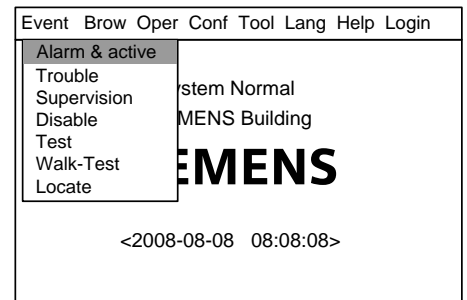

Fig.21-1
1. Press "Menu" to browse the main menu (Fig. 21-1)